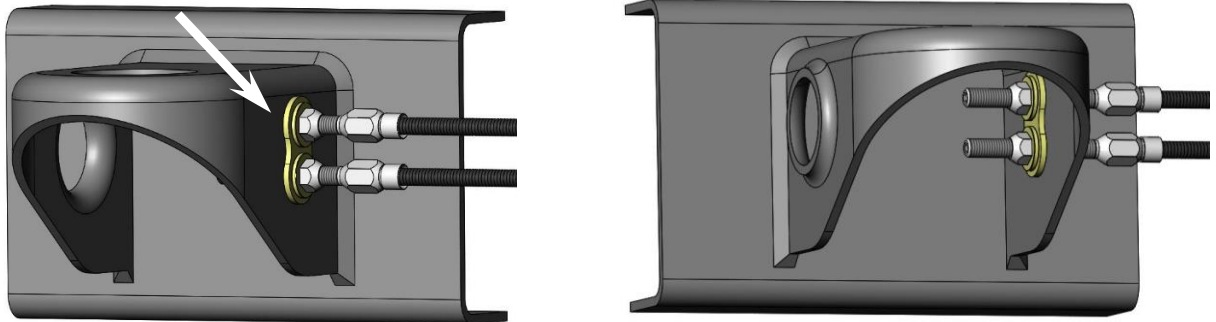

Figure 2 – Cable Attaching Point
5. If the cable housings were removed from the vehicle to cut, reinstall them into the caliper (as done previously in Step 2) and place the cable adjuster into the OE attaching location on the body mount. Place one each of the provided double hole washers on either side of the holes in the body mount to give the proper diameter for the cable housing adjuster to mount. Snug the nuts at this point as this may be used later for final adjustment. Refer to Figure 2 below for reference.